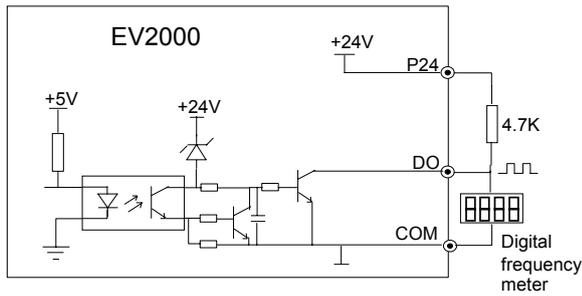

Fig. 3-30 Wiring 1 of output terminal DO
③ Pulse output terminal DO can use the 24V power supply inside the drive and the wiring is shown in Fig.3-30.